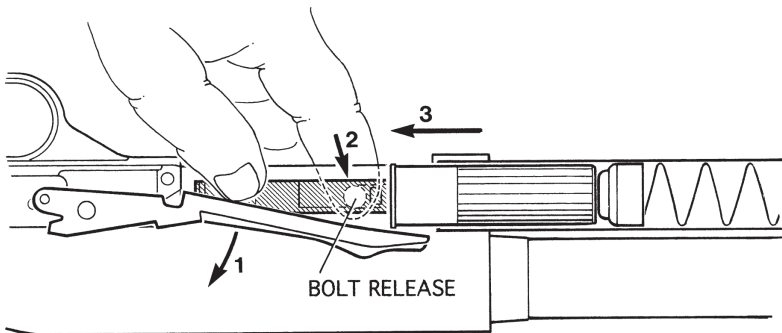

Figure 8
1. First, remove the cartridges from the magazine tube. With the safety button fully rearward in the “ON” (SAFE) position, turn the firearm so that the trigger guard is facing upward (Figure 8), keeping the muzzle pointed in a safe direction.